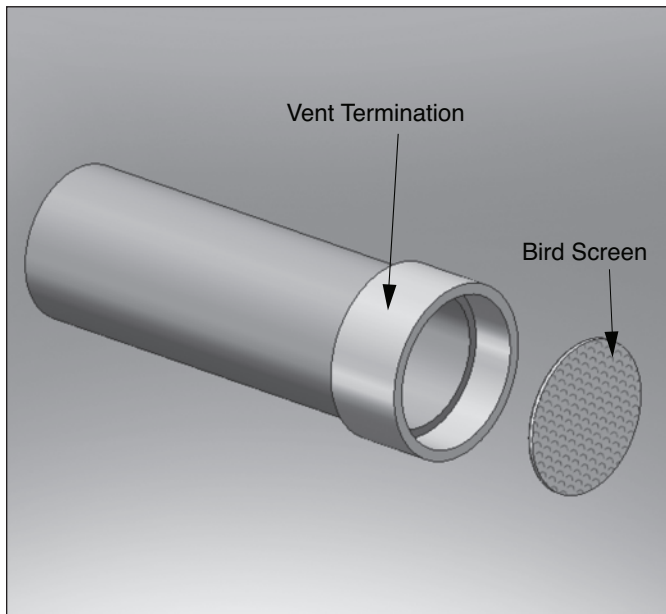

Fig. 16: Horizontal Vent Bird Screen Installation with Coupling Termination
1. The vent and combustion air terminations must include a factory supplied "bird screen" installed as shown in Figs. 16 through 19 page 17.